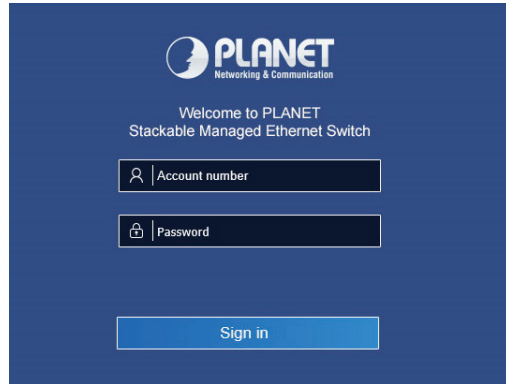

Figure 5-2: Login Screen
2. When the following dialog box appears, please enter the configured username **"admin"** and password **"admin"** (or the username/password you have changed via console). The login screen in Figure 5-2 appears.